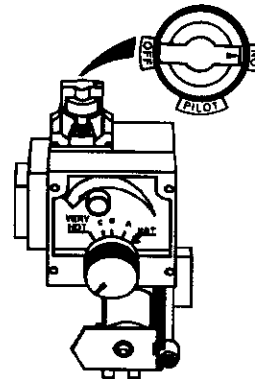

Figure 11
12. At arms length away, turn gas control knob counter-clockwise (↺) to the full "ON" position. **WARNING Do not use gas control knob to regulate gas flow.** (Figure 11, Page 22)